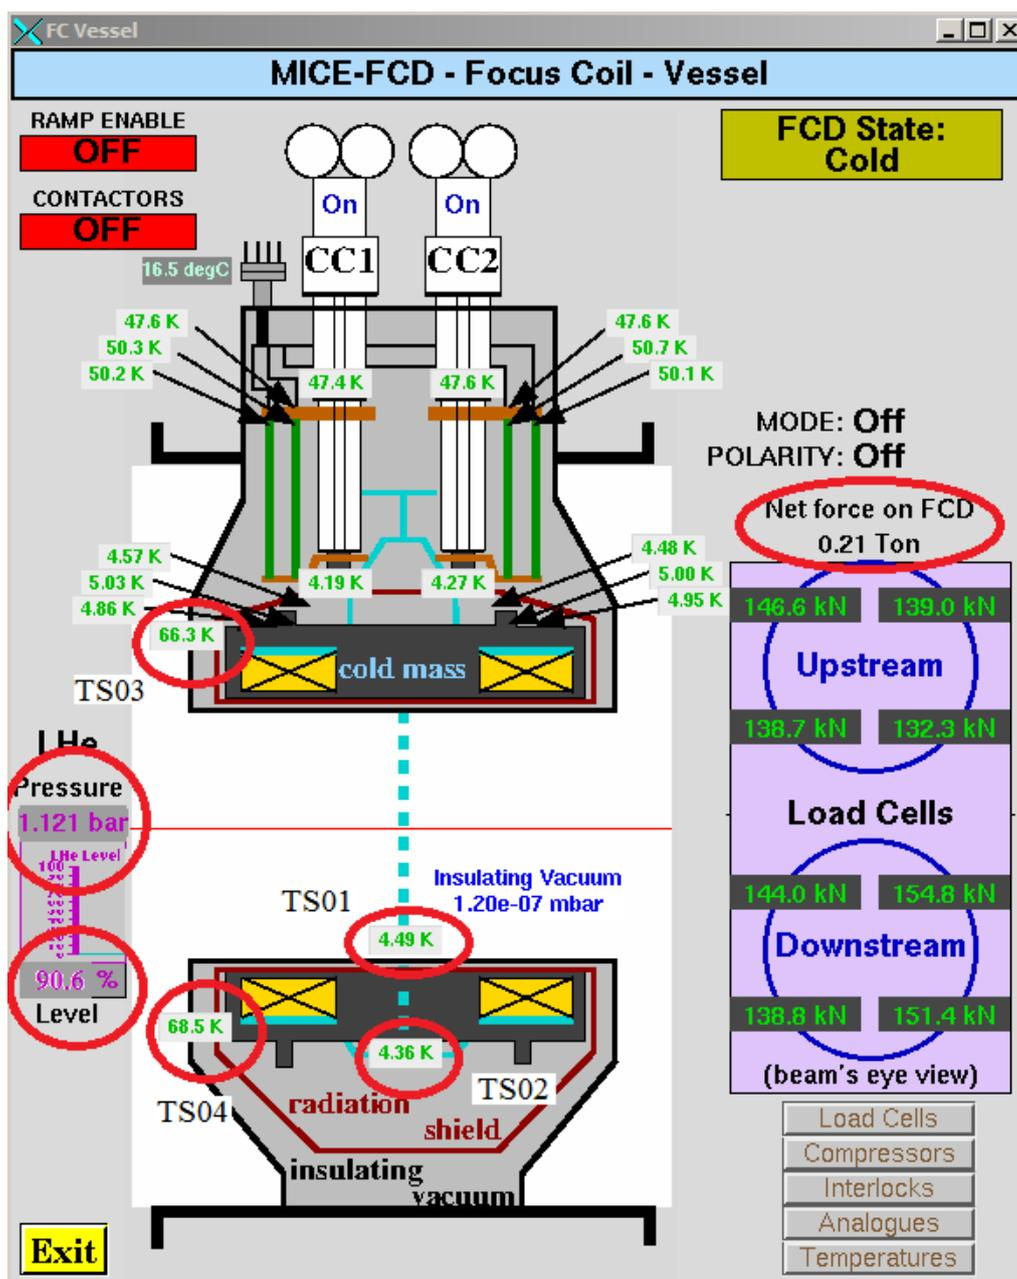

Figure 1 FC vessel mimic diagram
1. On the mimic diagram, Figure 1, (circled in red);